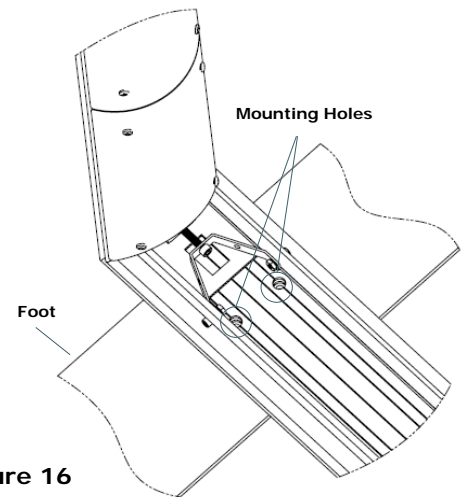

Figure 16
5. Align the mounting holes in the frame with the screw holes in the feet. Using the provided socket head cap screws, secure feet to the bottom of the frame with a 3/16" hex key wrench. **See Figure 16.**